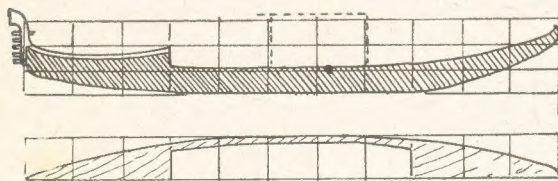

Fig. 1—Side view and half plan of deck
The approximate position of these is shown by dotted outline in Fig. 1. The width, given at (E), must be considered approximate, it being best to measure the width across the boat to make sure. Press the supports securely in their holes.